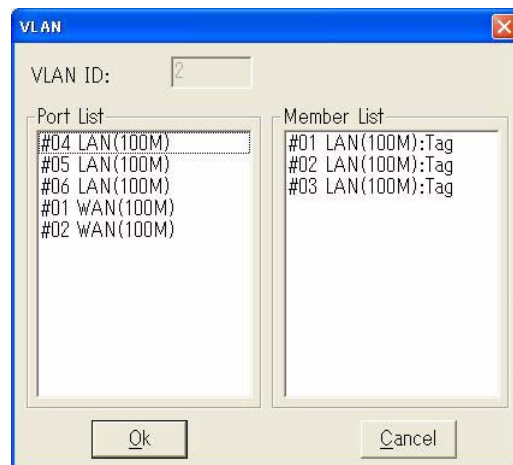

Fig. 4-4-69 Modifying VLAN
- 6 If need to modify a VLAN, select the VLAN and click modify button. **Fig. 4-4-69** appears: